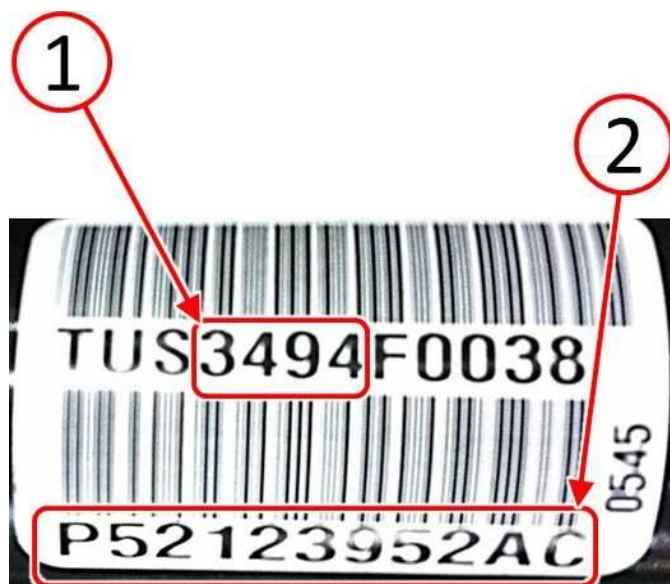

Fig. 2 Identification Label Information
2. **Inspect the affected date code range (1) on both axle shaft identification labels (Fig. 2).**